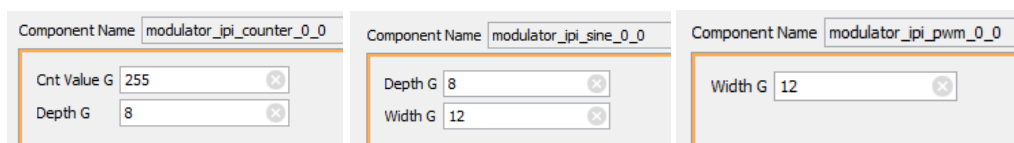

Figure 26. IP Customization
- 3-1-7.** Double-click on the each of the IP cores to re-customize them according to what is defined in Figure 26. This configures each of the IPs in your block design.